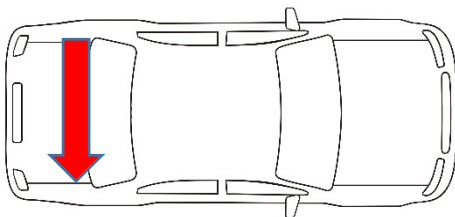

**Fig.1**
4. To remove the old bush, assemble tool as shown in (Fig 1) using removal sleeve.
5. The tool should be pushing in to the centre from the outside (Fig 1).